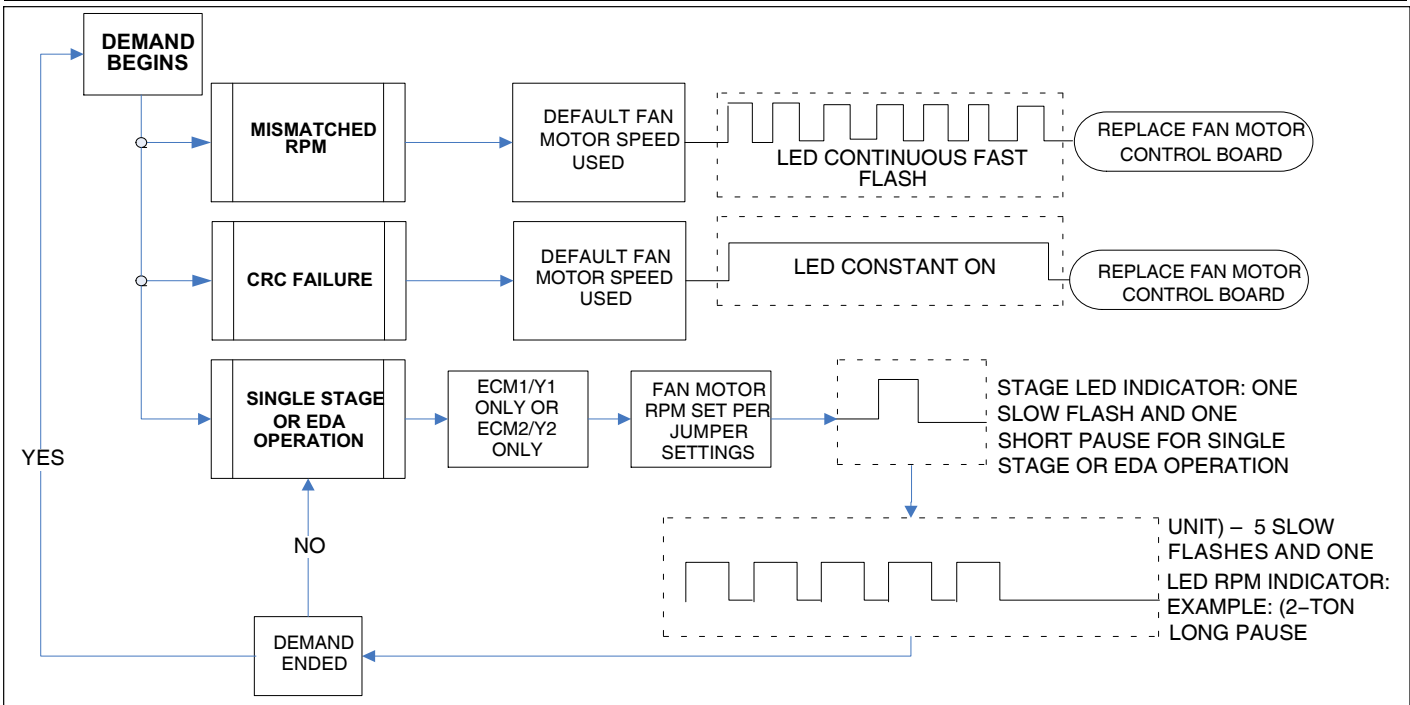

Figure 23. Fan Motor Control One Stage LED Sequence of Operation
4. After the RPM indicator is displayed, there is a short pause. The sequence repeats if a thermostat demand is still present. See figure 23 for LED sequence. See table 15 for description of flash and pause durations.